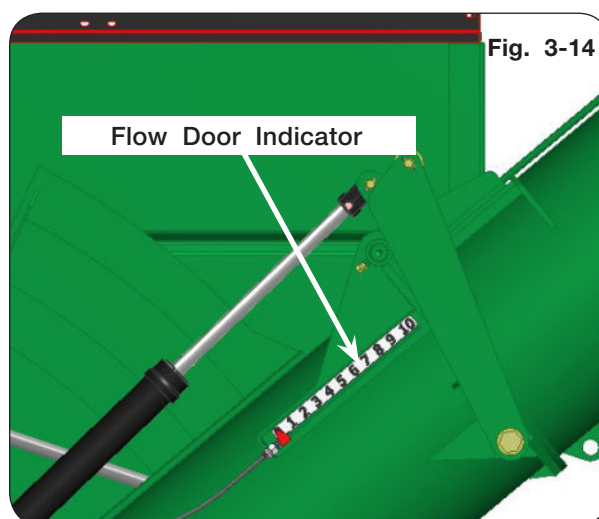

Fig. 3-14
4. Open flow control door to desired unloading rate. Numbers on the auger tube provide a point of reference for operator convenience. (FIG. 3-14)